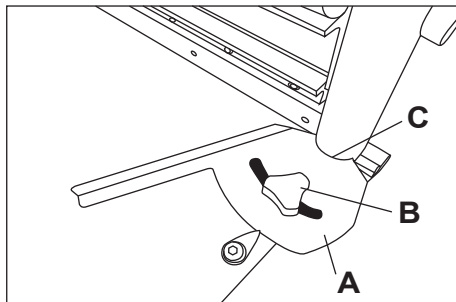

FIGURE 4
1. Adjust the angle gauge (Fig. 4 - A) so the red arrow is pointing at the 0° mark, and tighten the knob (Fig. 4 - B).